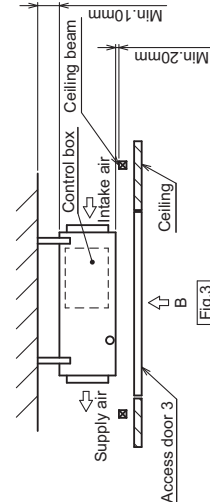

Fig. 3
- (2) When a space of less than 300mm is available below the unit between the unit and the ceiling.
- (At least 20mm of space should be left below the unit as shown in Fig. 3.)
- (2) When a space of less than 300mm is available below the unit between the unit and the ceiling. (At least 20mm of space should be left below the unit as shown in Fig. 3.)
(At least 20mm of space should be left below the unit as shown in Fig.3.)